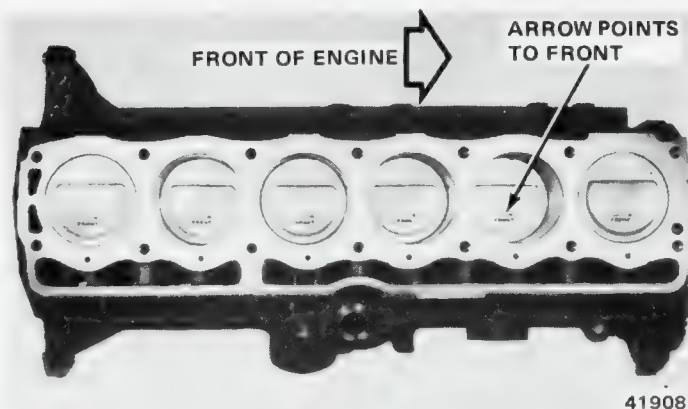

Fig. 1B-106 Pistons Correctly Positioned in Bores
- (1) Measure inside diameter of cylinder bore at point 2-5/16 inches below top of bore.
- (2) Measure outside diameter of piston.
**NOTE:** Because pistons are cam ground, measure at right angle to piston pin at centerline of pin (fig. 1B-107).
- (3) The difference between cylinder bore diameter and piston diameter is piston-to-bore clearance.